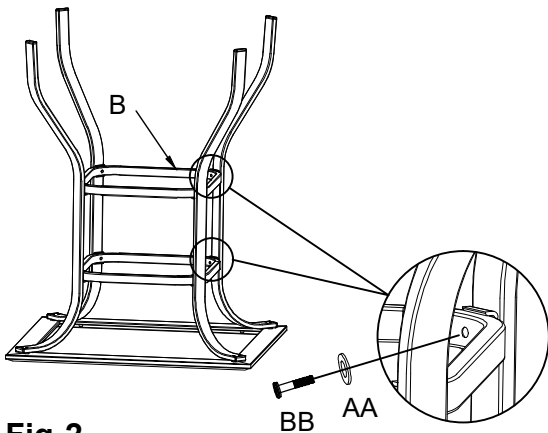

Fig.2
Step 2: Place the connecting frame (B) between the four legs (A). Line up the bolt holes on the connecting frame (B) with the corresponding bolt holes on the table legs (A). Insert M6x25 bolts (BB) with M6 washers (AA) and loosely tighten all bolts with allen wrench (CC). Please see Fig. 2.